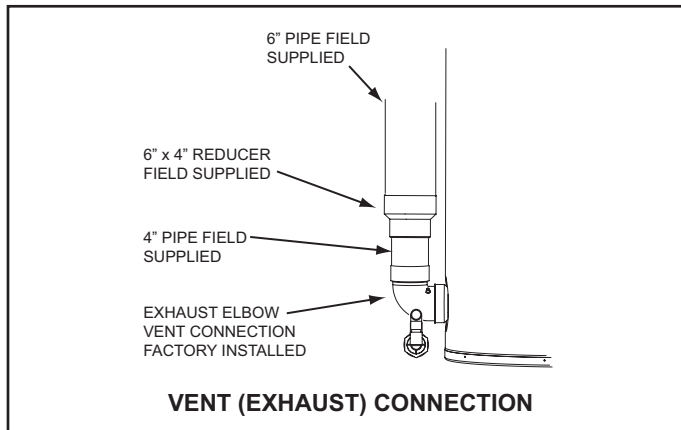

Figure 15
11. If installing 6 inch pipe transition to 4 inch pipe as shown in Figure 15. The field installed 4" pipe between the exhaust elbow and the 6" x 4" reducer coupling should be 18 inches (45 cm) or less in length.
12. If installing 6 inch vent pipe transition to 4 inch pipe at the exhaust elbow on the water heater as shown in Figure 15. The field installed 4" pipe between the exhaust elbow and the 6" x 4" reducer coupling should be 18 inches (45 cm) or less in length.